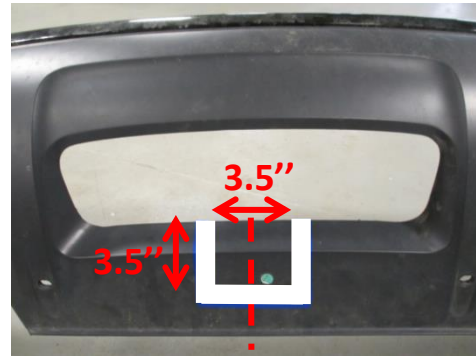

Figure 5
6. Locate center line of lower fascia and trim 3.5" tall and 3.5" wide area, beginning from slot opening in fascia as shown in Figure 5.